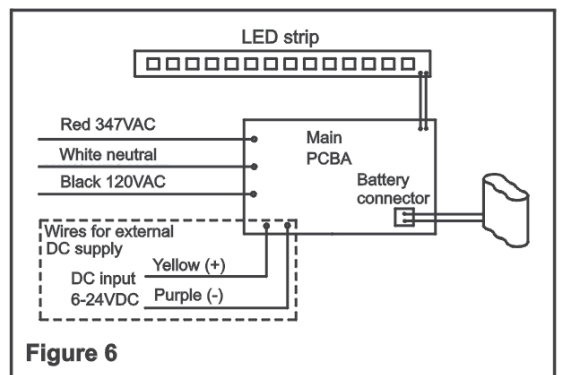

Figure 6
- e. Feed the AC supply leads out through the center hole and make the proper connections (See step 4 and Fig.6).
- c. Install canopy according to mounting configuration (see figure 6).
- d. Feed the unit wires through canopy hole and make the proper connections (See step 4 and Fig.6).
4. Make the proper connections (see figure 6):
5. For universal AC/DC models: connect wires for external DC supply (see figure 6)